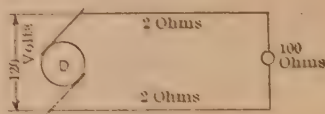

FIG. 37.
**Problem 8.** The lamp in Fig. 37 has a resistance of 100 ohms, and the line wires 2 ohms each.